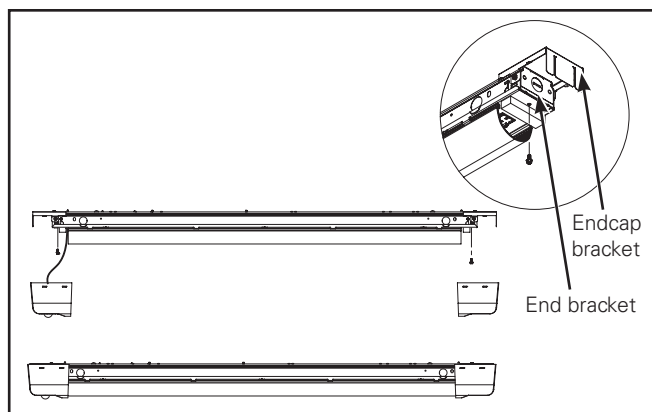

Figure 2.
4. Install channel cover on channel housing with screws provided. (Figure 2). Install endcaps/midcaps.